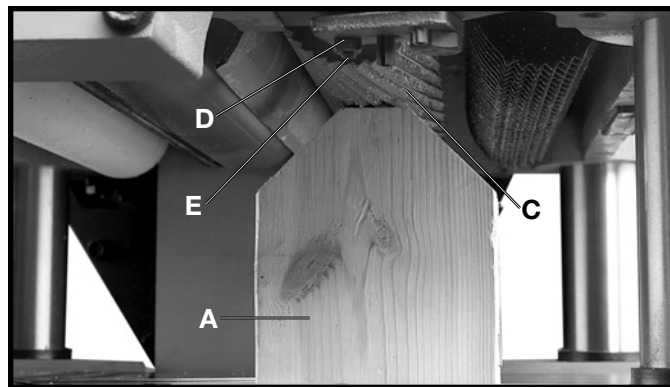

Fig. 43
3. Move the gage block (A) Fig. 43, minus the feeler gage, under one end of the infeed roller (C). The bottom of the infeed roller (C) should just touch the top of the gage block (A), as shown.
4. If the height of the infeed roller must be adjusted, loosen nut (D) Fig. 43, and turn adjusting screw (E) until that end of the infeed roller just touches the top of the gage block. Then tighten nut (D).